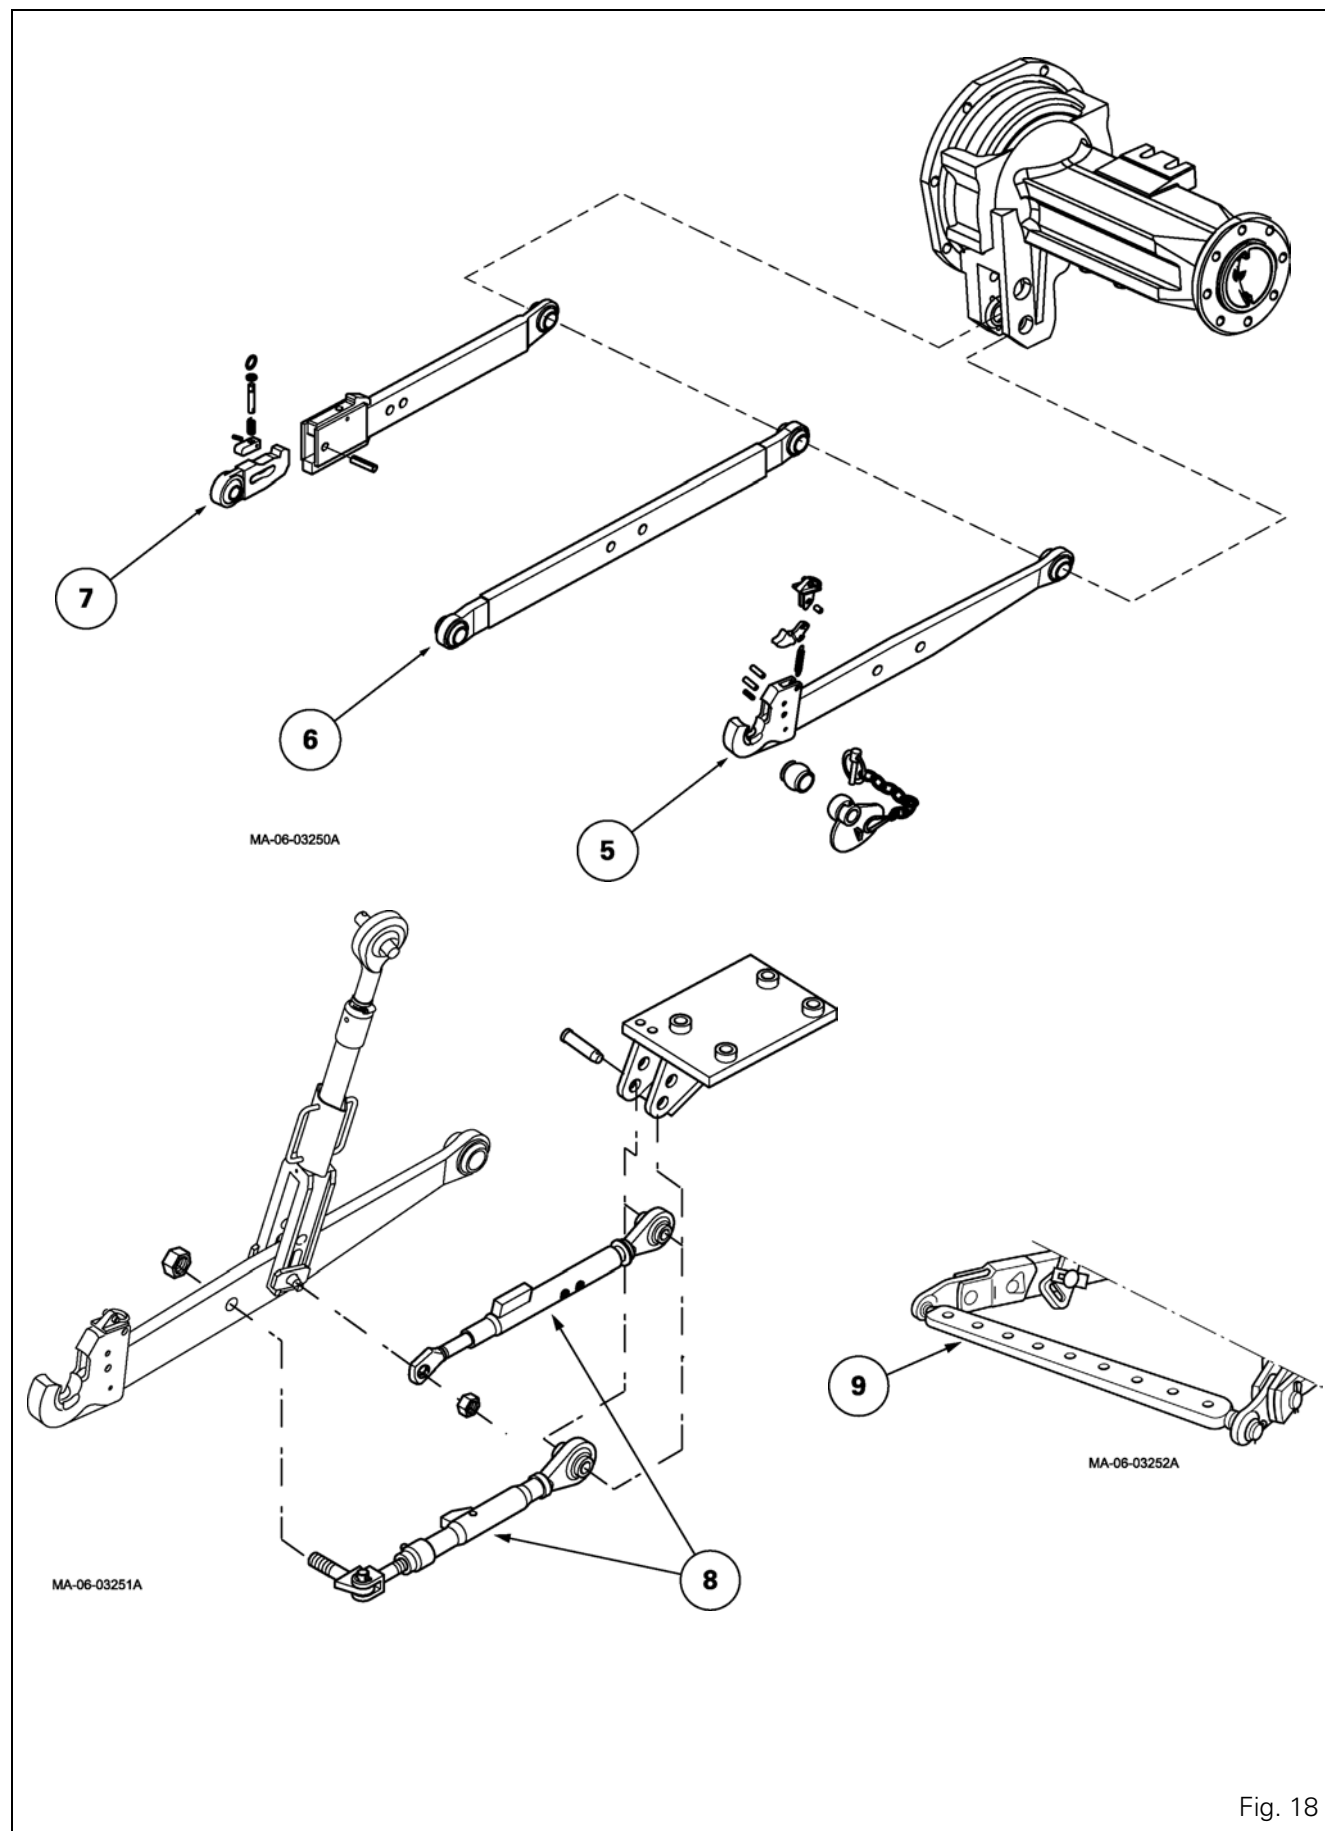

Fig. 18
- Lower drawbars (Fig. 18):
- (5) hook drawbar
- (6) fixed ball joint drawbar
- (7) telescopic drawbar
- Telescopic stabiliser (8) (Fig. 18)
- Perforated bar (Fig. 18)